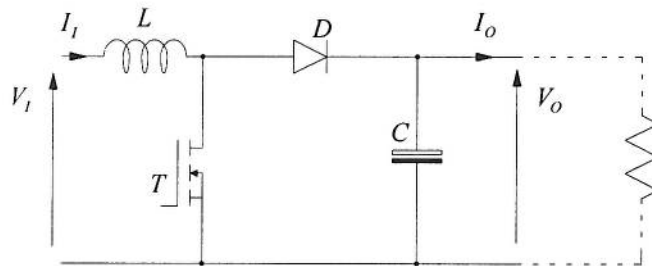

Figure 3.1 A Boost SMPS
3. Figure 3.1 shows the circuit of a boost switch-mode power supply (SMPS). It is to be operated in continuous conduction mode with an input voltage of 9.0 V and output voltage of 20.0 V. It will be required to process a maximum throughput power of 36 W and have an output voltage ripple which is to be no greater than 75 mV. The turn-on and turn-off energy losses of the MOSFET operated at 4 A are 5  $\mu$ J and 7  $\mu$ J respectively. The on-state resistance of the MOSFET is 0.1  $\Omega$ .